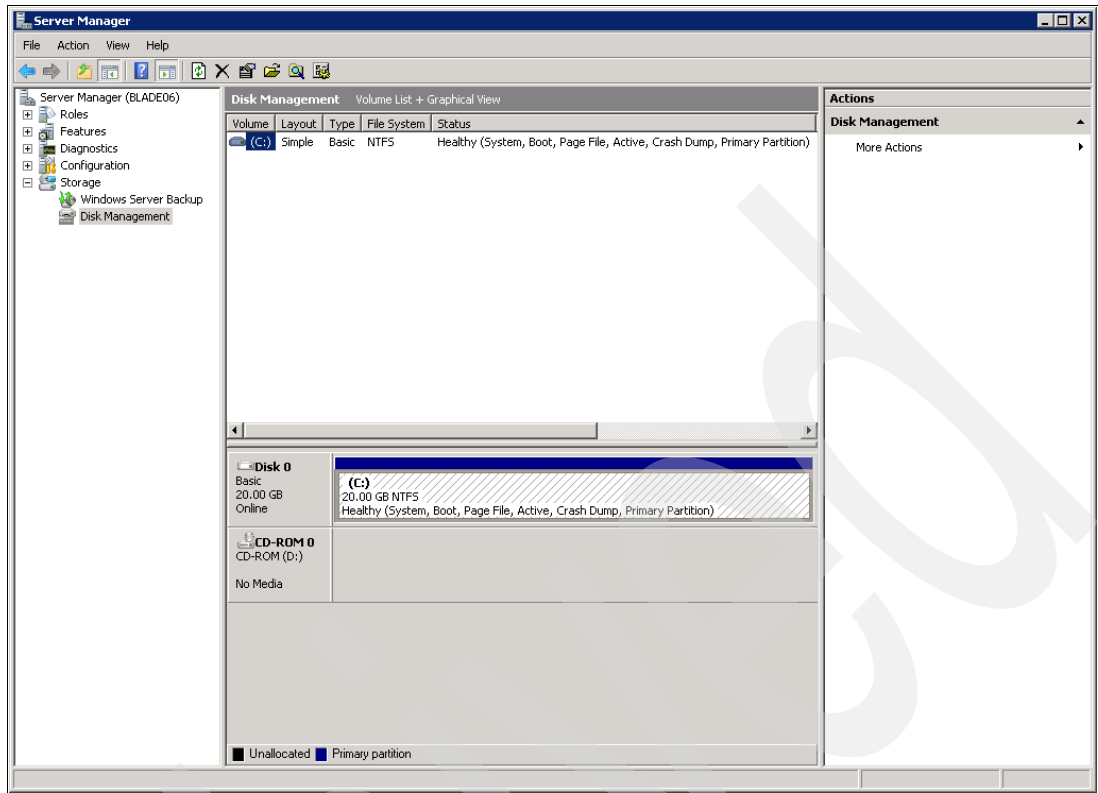

Figure 20-46 Confirming single boot volume
9. Once Windows Server 2008 is booted up, verify in the Windows 2008 Disk Management window that only a single disk is seen as the boot volume, in our example, a 20 GB disk, as shown in Figure 20-46 on page 477. This confirms that the Multi-Path driver is installed successfully.